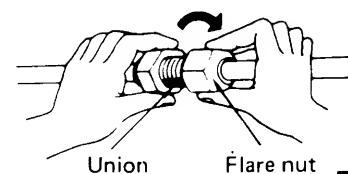

Fig. 27
- For proper connection, hold union pipe and flare pipe straight with each other, screw in the flare unit lightly at first to obtain smooth match. Fig. 27